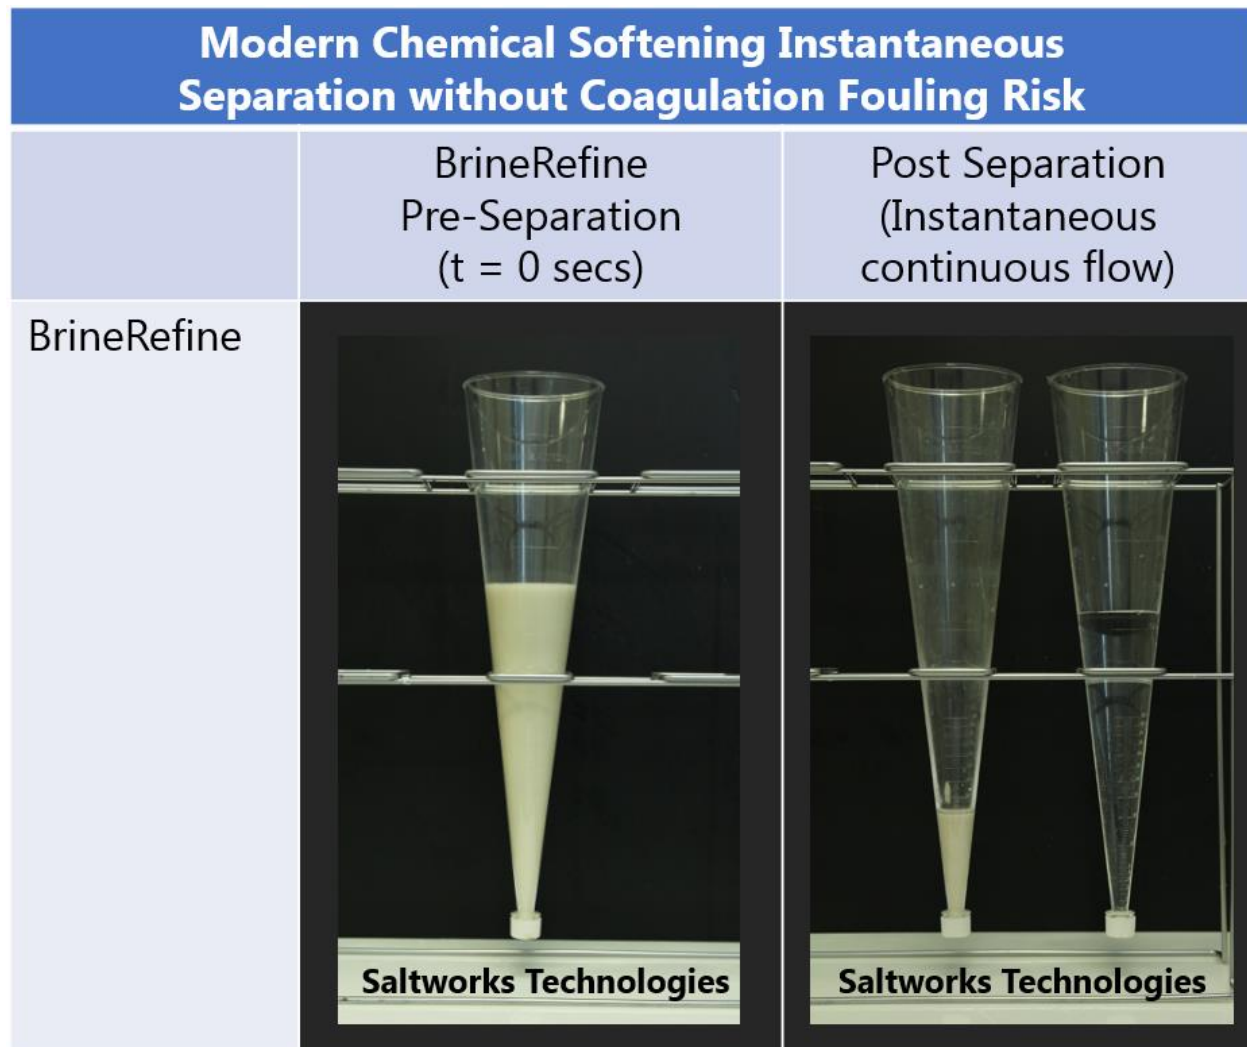

Figure 4: BrineRefine Solids-Liquid Separation without Clarifier and without use of Flocculants/Coagulants
- **Compact:** BrineRefine eliminates the need for large reaction vessels and clarifiers. See Figure 4 below for BrineRefine solids liquid separation without the use of clarifiers or coagulants/flocculants.